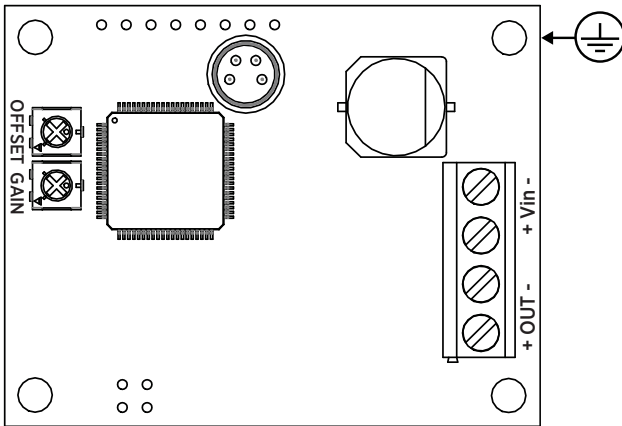

Figure 1 Component Board (3-wire Version)
- ▶ 1. Attach the module securely using the mounting holes on the corners of the component board. Use the optional mounting bracket if needed. Be sure to provide an earth connection from the plated mounting hole. See Figure 1 \(page 2\). Refer to the *HMM100 User Guide* (M211024EN) for Vaisala order codes of accessories.